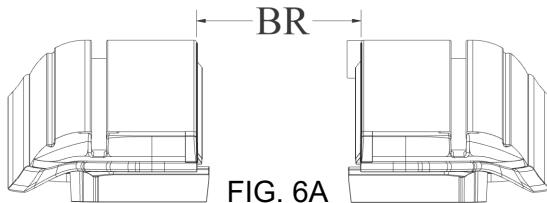

FIG. 6A
Check for proper spacing by measuring between the rails at the canister and the tailgate end of the rails (Fig 6A). The measurement should be equal to or less than those in Fig 6B. The Rail Brackets and Shims have been pre-installed to achieve the proper Between the Rail dimensions (BR) when placed on an average factory truck bed. However, not all truck beds are average dimensionally and some have optional plastic caps or over the rail spray-in bedliners.